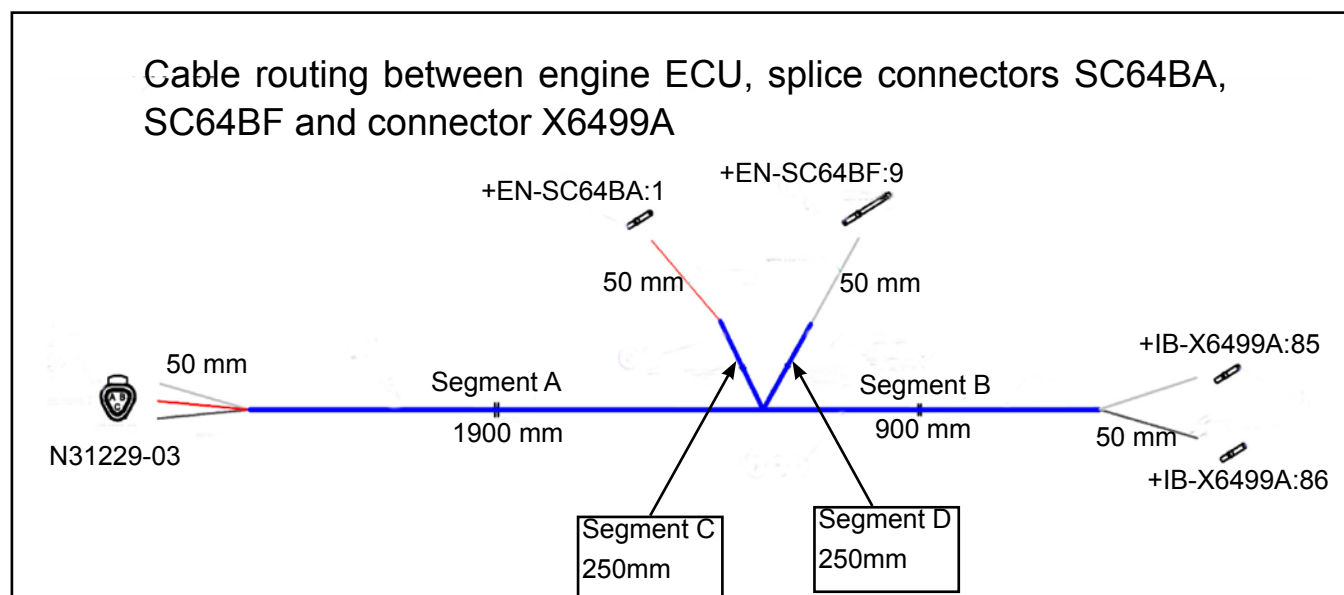

Figure 1 - Replacement Cable N80191
- 1.1. Replacement cable N80191 (see Figure 1).